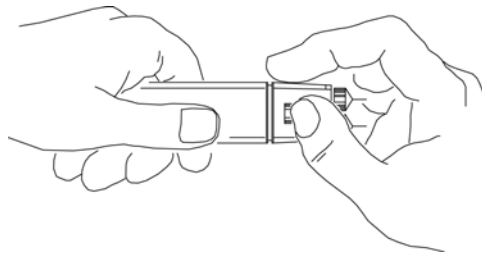

Figure 7 Attaching the Adapters
- 2 As shown in Figure 7 on page 17, fit the adapter over the end of the probe and rotate the thumb wheel with your finger until the adapter fits snugly.